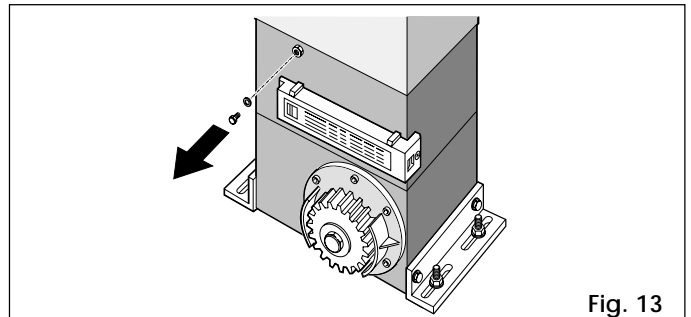

Fig. 13
- 6) Remove the breather screw as shown in Fig. 13 and keep it in a safe place.